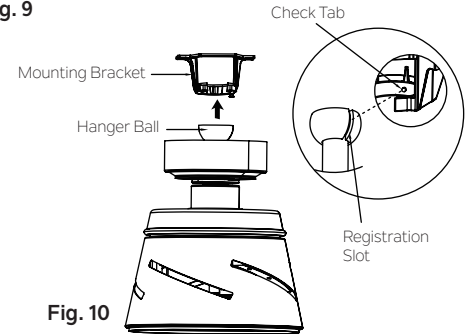

Fig. 10
**Step 6.** Now lift the motor body into position and place the hanger ball into the mounting bracket. Rotate until the “Check Tab” has dropped into the “Registration Slot” and seats firmly. (Fig. 10) The entire motor body should not rotate if this is done correctly.